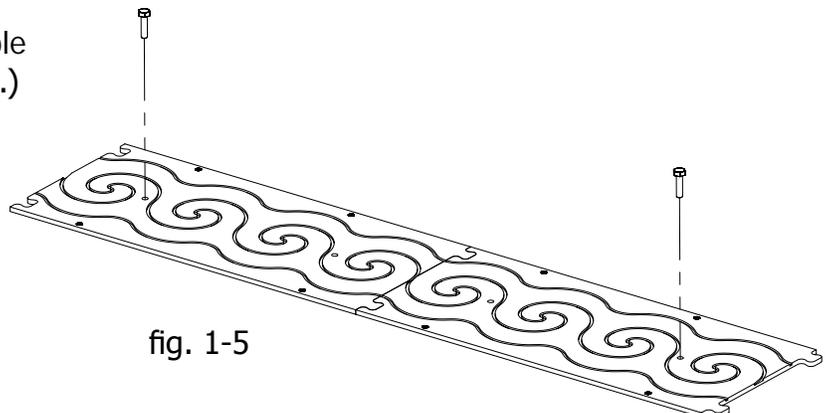

fig. 1-5
**Step 1-3:** Fasten the templates to the table using your existing hex bolts. (See fig. 1-5.)